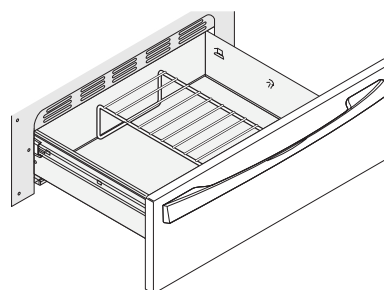

Fig. 1
- In the **upright position** (See Fig. 1) to allow low profile food items to be placed both under and on top of the rack (for example, rolls or biscuits on top of rack and a casserole dish underneath).
Set the warmer drawer rack in either position as shown below (Figs. 1 & 2).
Recommended warmer drawer food settings are shown in Fig. 1. If a particular food is not listed, start with the **med** setting. If more crispness is desired, remove the lid or aluminum foil from the food.